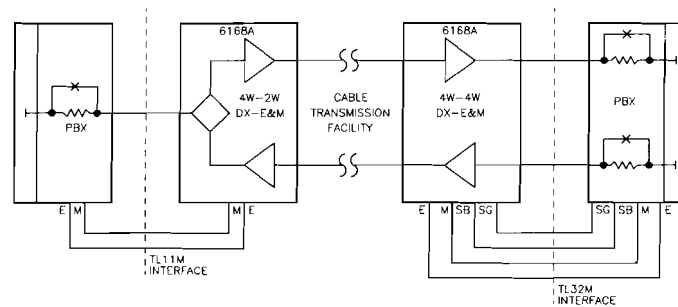

figure 2. Typical short-haul tie-trunk circuit using 6168A module
2.02 The 6168A is well suited to a variety of 4wire-to-4wire and 4wire-to-2wire DX-to-E&M applications, both network-terminating and otherwise. Figures 2 and 3 show two typical network-terminating tie-trunk applications of the 6168A.